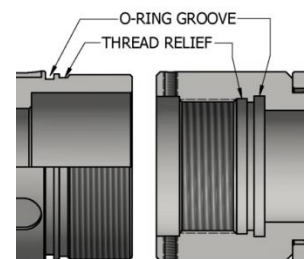

Fig. 2
- CAUTION5**: To ensure tool operates properly, install o-rings in o-ring grooves **NOT** thread reliefs unless stated otherwise (Fig. 2).
- H-1) Install o-rings (27, 28) in o-ring grooves in flat top (1).